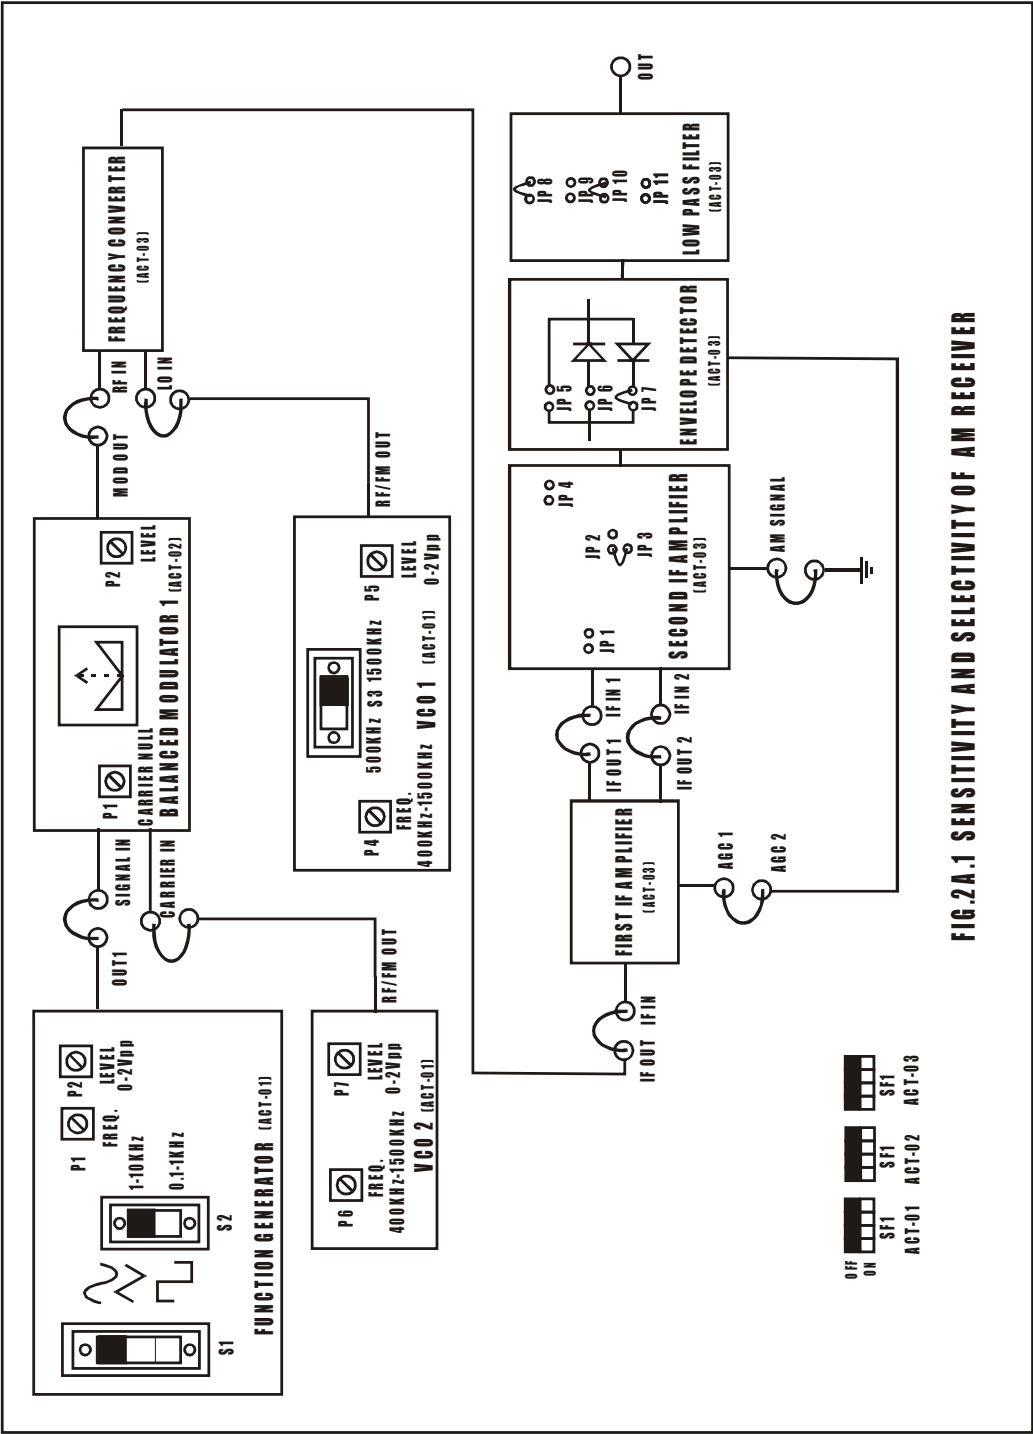

FIG.2A.1 SENSITIVITY AND SELECTIVITY OF AM RECEIVER
- Refer to the fig.2A.1 & Carry out the following connections and settings.